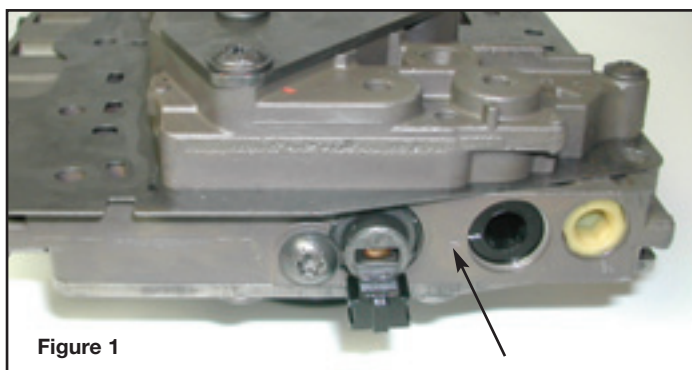

Figure 1
1. Place a punch mark on the casting aligned with the index molded into the plastic plug (see Figure 1).